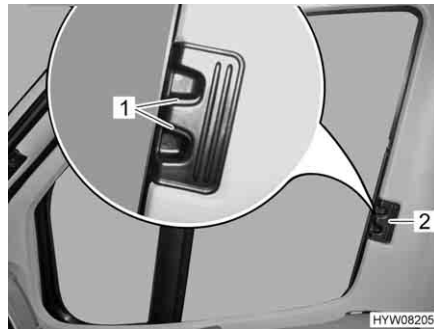

Fig. 76 Roman shade for driver's and passenger's window
- Press the release handles (Fig. 76,1) and hold them down.
- Using the handle (Fig. 76,2), draw the Roman shades for the driver's and passenger's window to the other side of the window and secure them to the magnetic strips.
- Use handle (Fig. 76,2) to push in the Roman shades for the driver's and passenger's window as far as possible.
- Let go of the release handles (Fig. 76,1) and let them engage.